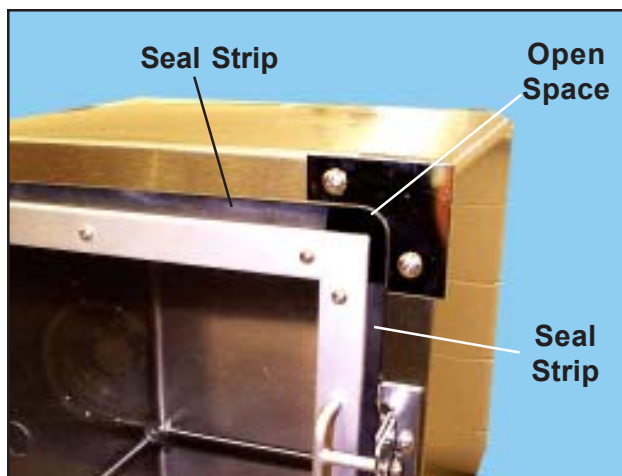

Figure 8. Door Seals and Open Space
**Door Seals** The door has flexible rubber seal strips (Figure 8) on all four sides to prevent the escape of oxygen. The corners are open to help distribute the oxygen uniformly, and allow for the escape of carbon dioxide.